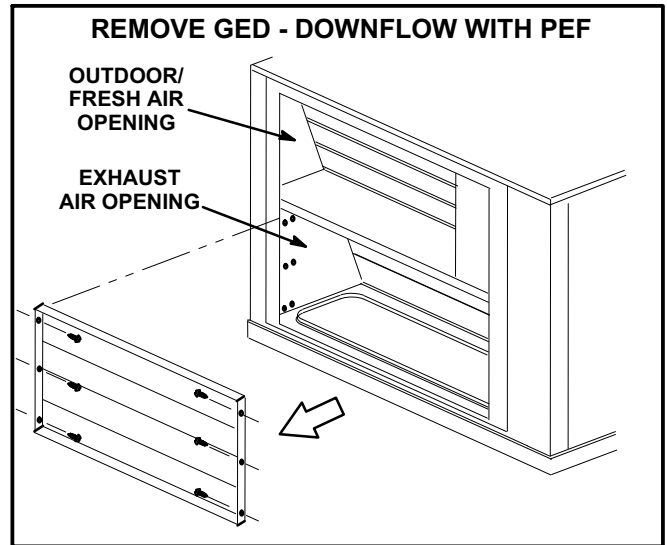

FIGURE 7
- 1- Remove GED from the economizer and install in the fresh / exhaust air hood when optional power exhaust fans are installed. See figure 7.